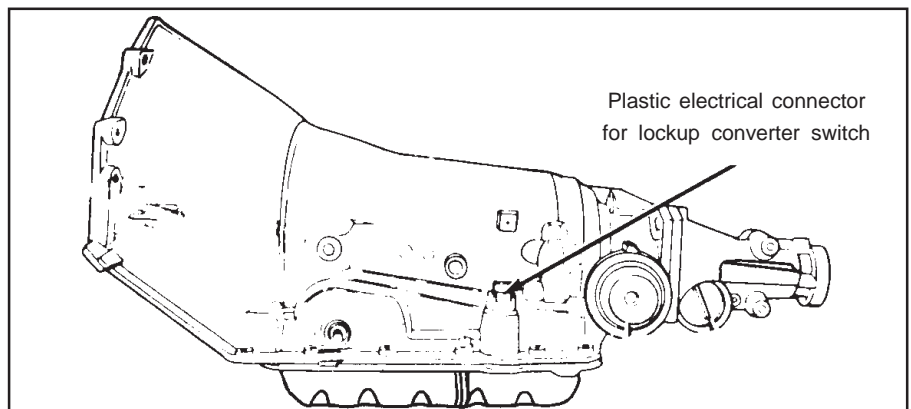
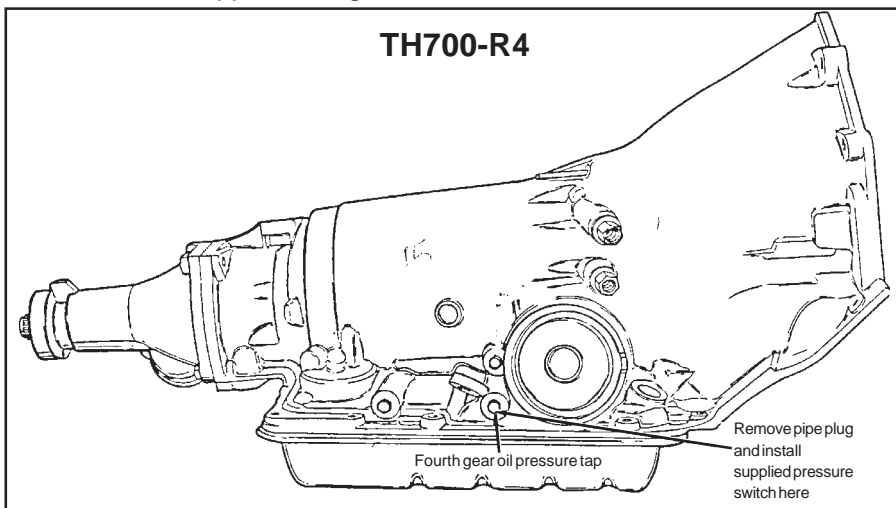
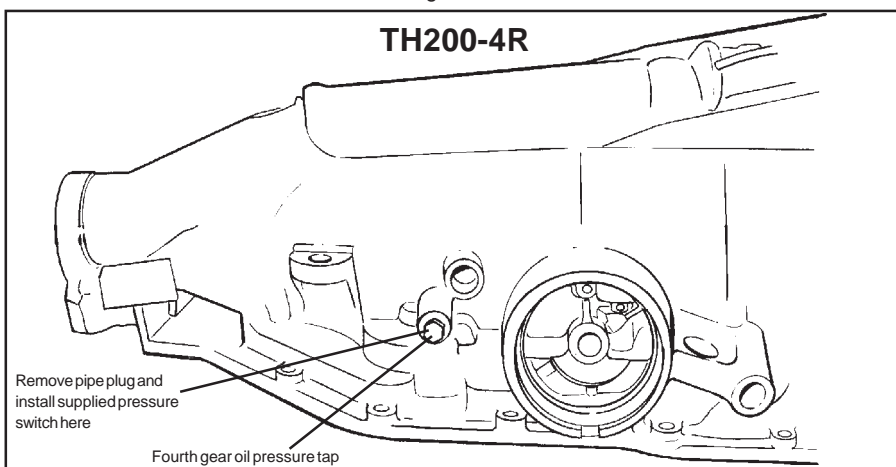

Figure 1
Figure 2A
Figure 2B
**STEP 2.** Locate the plastic electrical connector on the driver's side of the transmission. **See Fig. 1.** The connector will have from one to three wires connected to it. If there is more than one wire, select the wire going to the terminal marked "A" on either the plug or the socket. Cut the selected wire about 3-4" away from the plug.
Locate the plastic electrical connector on the driver's side of the transmission. **See Fig. 1.** Locate the fourth gear oil pressure tap on the transmission case. **See Figure 2A** for the TH700-R4 location and **Figure 2B** for the TH200-4R tap location.